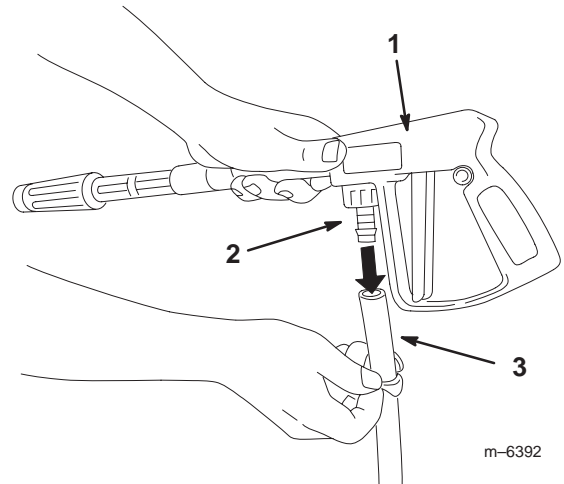

Figure 12
2. Connect the free end of the long hose to the fitting on the gun (Fig. 12).